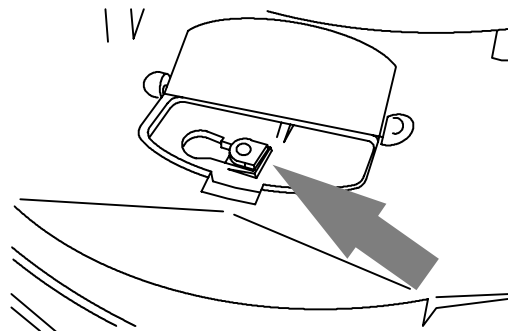

FIG. 12
6. Align brush drive pin with the drive pin slot on drive plate. Lift scrub brush and turn brush counter-clockwise to engage drive pins into drive slots (Figure 12).